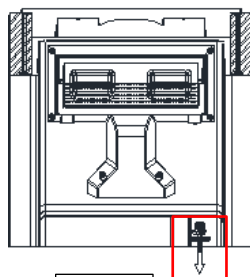

Fig. 4
7. You can pull the drain plug (Fig. 4), to drain the cleaned water solution.